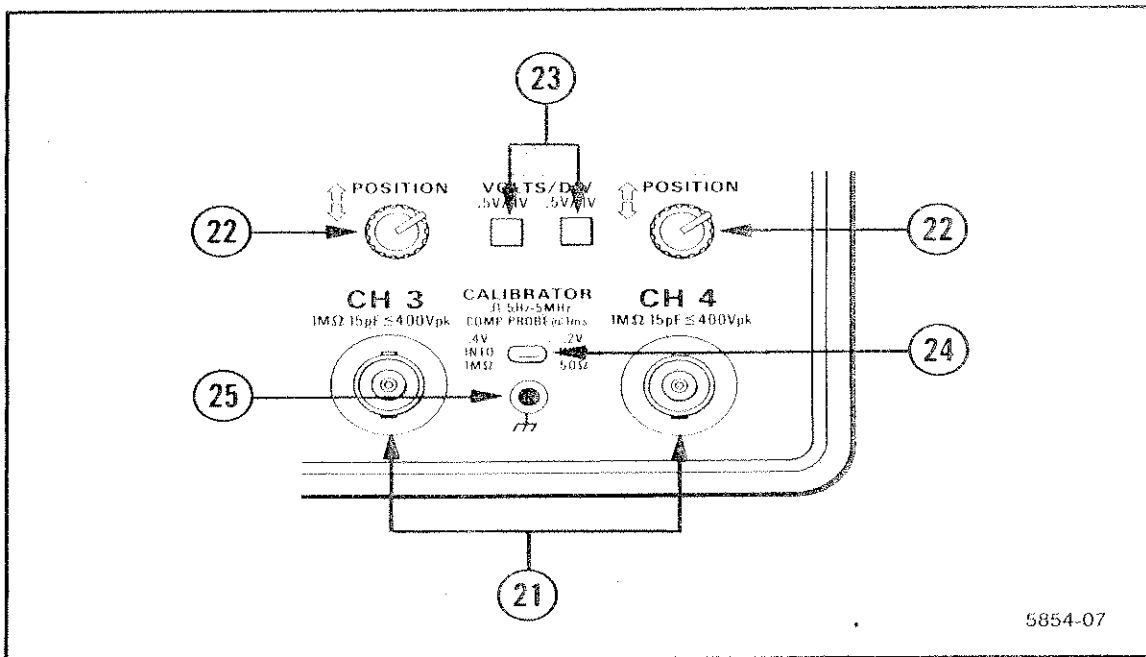

Figure 5-4. CH 3 and CH 4 controls and connectors and CALIBRATOR output.
Refer to Figure 5-4 for the location of items 21 through 25.